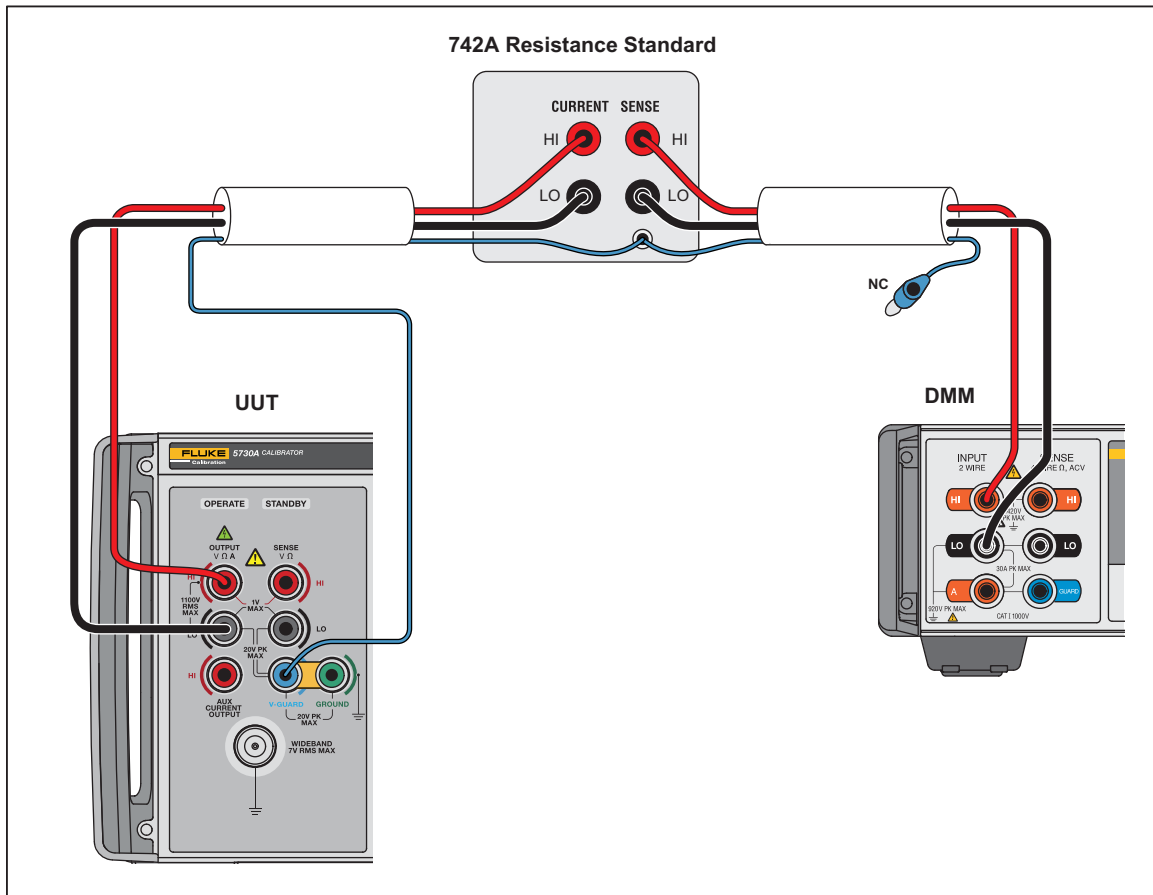

Figure 13. Direct Current Accuracy Test Connections
1. Connect the DMM and the Product to the shunt given in Table 12, as shown in Figure 13. When testing a 5725A, connect to the 5725A current output terminals instead of the Product output.